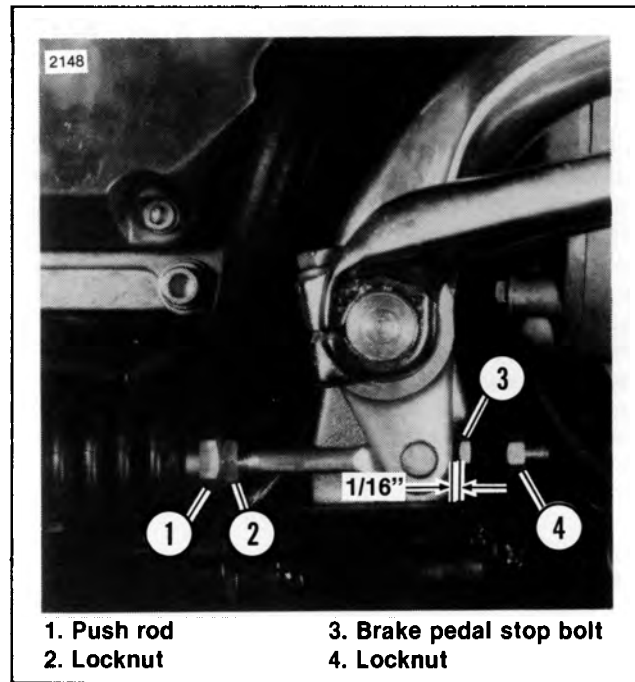

Figure 2-45. Adjusting Brake Pedal Height and Free Play — FXR Models — 1984-Early 1987 (Except FXRD)
2. See Figure 2-45. Loosen locknut (4) and turn brake pedal stop bolt (3) in or out to achieve proper pedal height.
3. Tighten locknut (4) while holding brake pedal stop bolt (3) in place.
4. Push rod (1) must have 1/16 in. free play before activating master cylinder piston. Measure free play between brake pedal arm and brake pedal stop bolt (3). Loosen push rod locknut (2) and turn push rod in or out to achieve proper free play.